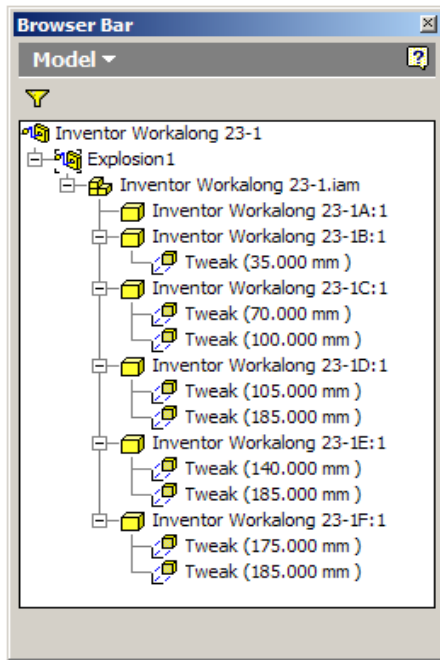
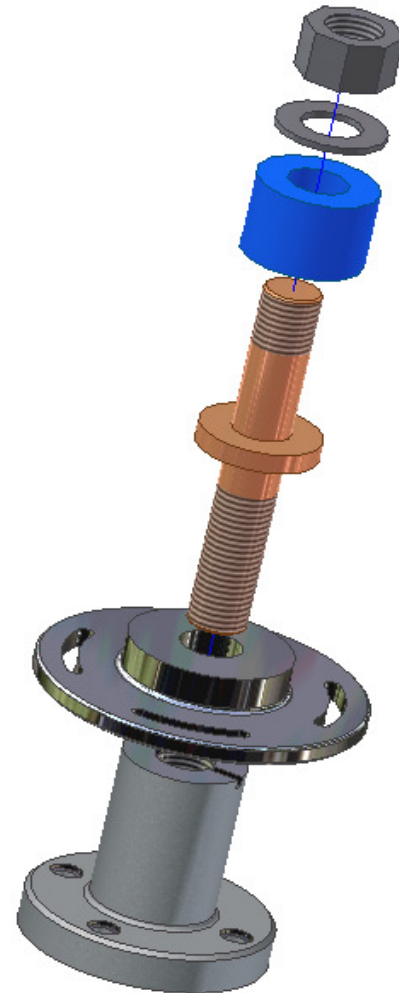

Figure Step 15A
Figure Step 15B
Step 15 Click the Clear button to clear the current settings. Using the Browser bar in Figure Step 15A, manually tweak the assembly to match the figure shown in Figure Step 15B. (Figure Step 15A and 15B)